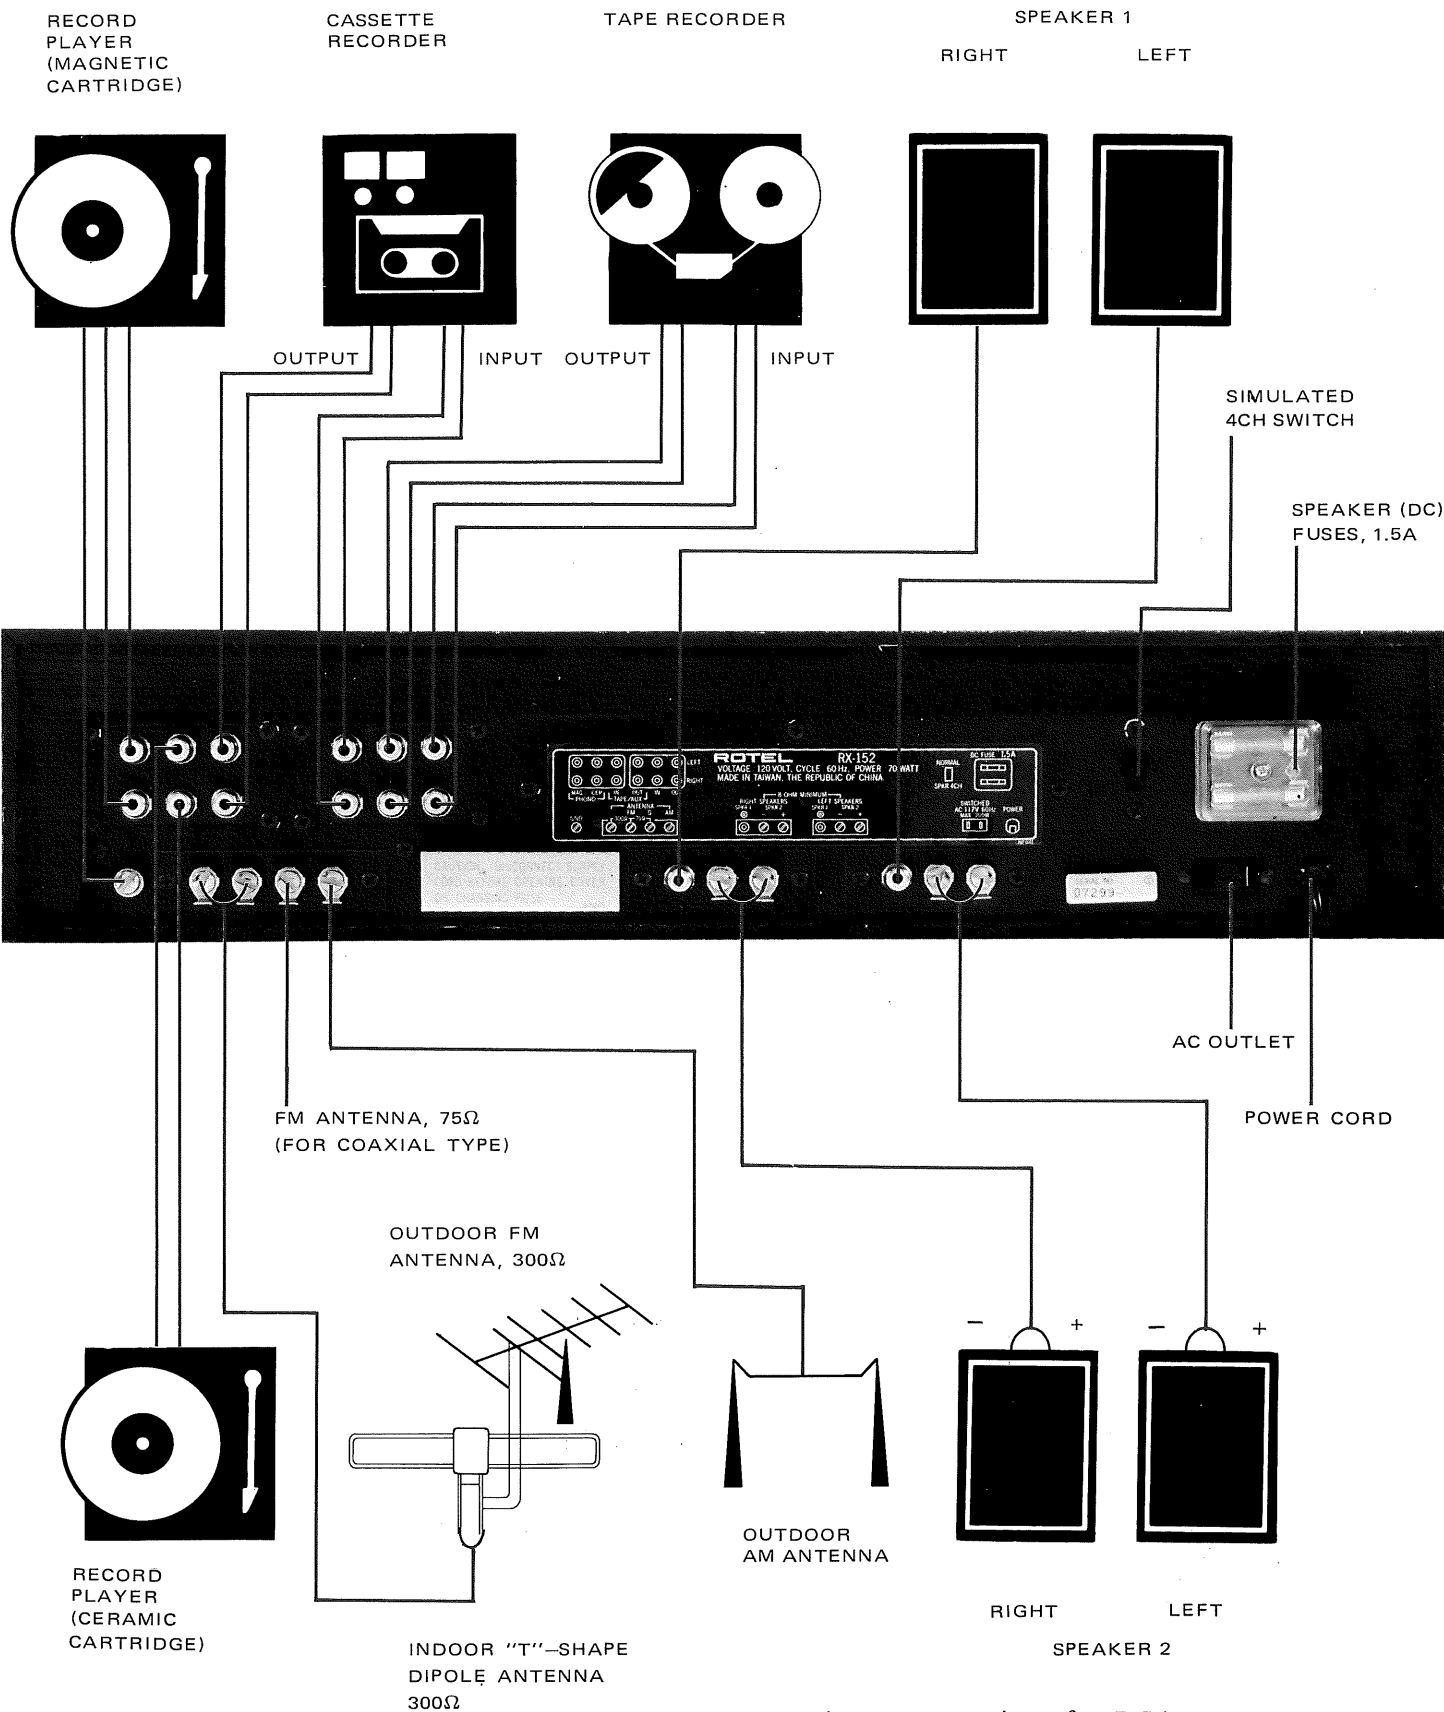
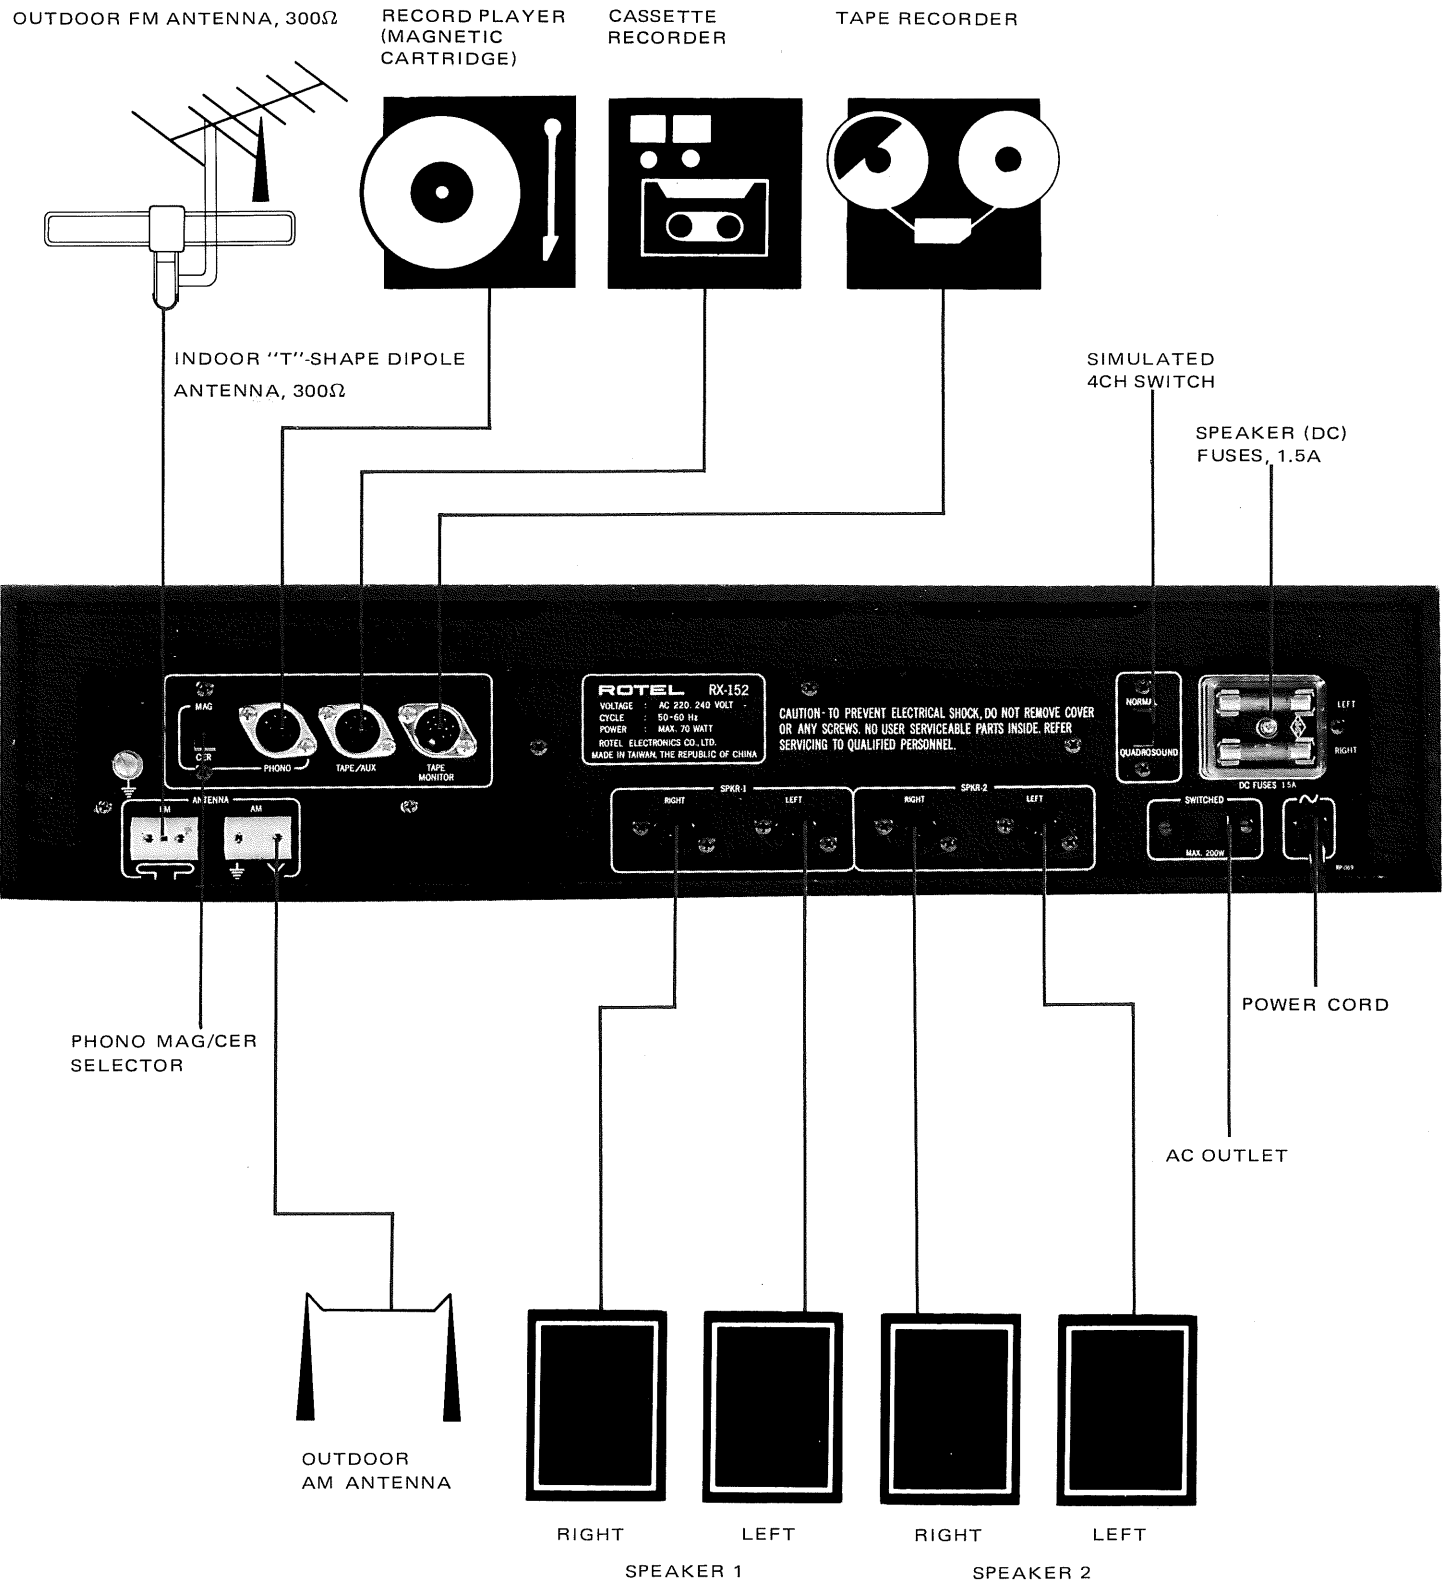

Fig. 2 Connections for RCA-type
Fig. 3 Connections for DIN-type
See Fig. 2 and Fig. 3.
**Note:** Refer to Fig. 2 and Fig. 3 for visual guide to proper connections.
This equipment is protected with two 1.5-ampere (1.5A) fuses for the DC circuit and speakers, one for each channel. If the unit fails to operate when plugged in and turned on or if it suddenly becomes completely inoperative while playing (i.e., one or both speakers are silent regardless of speakers switches and function selector control position), a fuse or fuses may have been blown. In order to replace fuses, always turn off the unit and disconnect its power cord from the electrical source. The fuses are in the clear plastic box on the rear panel (Fig. 2). To replace the fuse, open the fuse box with a screwdriver and remove the fuse from the brackets. Check if the fuse